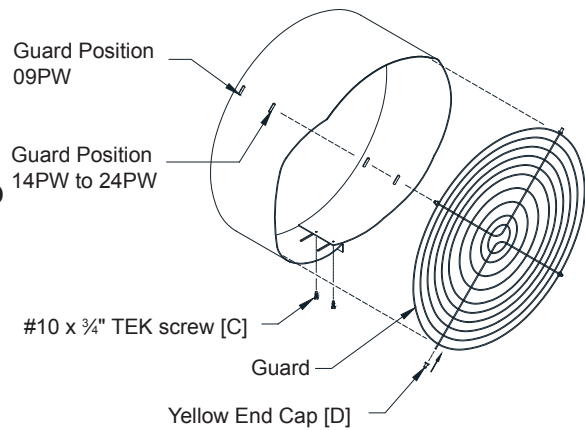
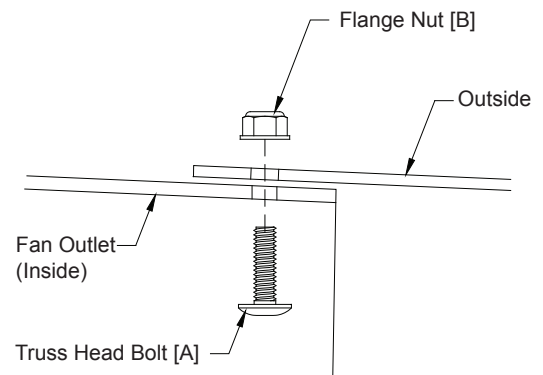

Figure 1
Figure 2
Lay hood on flat surface and curl ends around until they overlap. Join ends using (2) TEK Screws. [C] **See Figure 1.** Screws should pass through slots and secure into small round holes. **DO NOT** tighten.
Attach hood to fan by inserting (4) Truss Head Bolt [A] from inside and securing with (4) Flange Nut [B] outside. **See Figure 2. DO NOT** tighten nuts at this time. **Note:** 09PW does not require bolts and nuts. Instead, it should mount over posts of guard which is included with fan. **See Figure 1.**
Install one plastic End Cap [D] on each extended wire of guard (4 total). **See Figure 1.** Mount PVC coated guard in hood by inserting (4) extended wires through slots in hood. **See Figure 1. Assembly is now complete.**